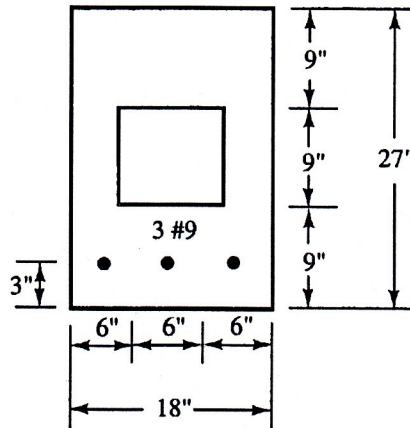
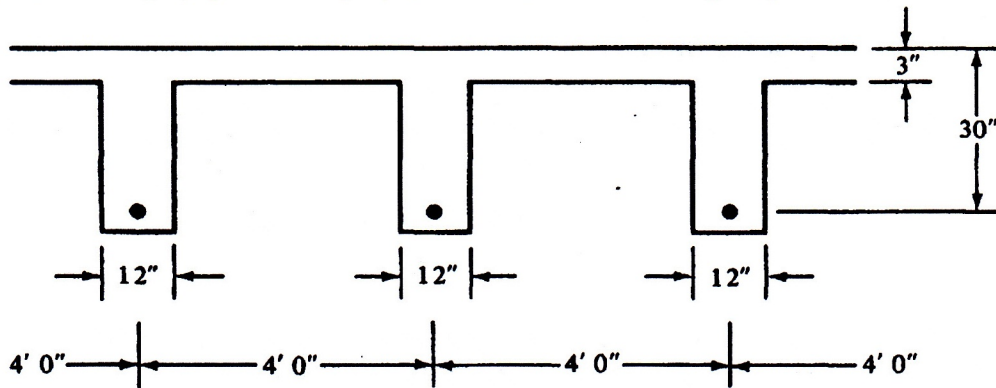

Fig. 1
Fig. 2
1. a) Calculate the uniformly distributed load (in addition to beam self-weight) which will cause the hollow section (Fig. 1) to begin crack. Given, Simply supported span = 28 ft, $f'_c = 4$ ksi, $f_y = 60$ ksi, $n=9$, concrete unit weight = 150 pcf. (5)
- b) Use Transformed Area method to determine the allowable resisting moment of the beam (Fig. 1), if the allowable bending stresses of concrete and steel are $f'_c = 1.35$ ksi and $f'_s = 20$ ksi. (5)
2. a) What is the justification of selecting strength reduction factor (ϕ) based on net tensile strain (ϵ_t)? Discuss the variation of ϕ with ϵ_t as given in ACI code addressing the tension controlled and compression controlled design. (3)
- b) A rectangular concrete beam of width $b = 14$ " is limited by architectural considerations to a maximum total depth $h = 32$ ". The beam must carry a service (i.e. unfactored) DL moment of 200 k-ft and service LL moment of 450 k-ft. Design the flexural reinforcement for the beam using compression steel if necessary. Assume double layer tension reinforcement. Use, $d=28$ ", $d' = 3$ ", $f'_c = 4$ ksi, $f_y = 60$ ksi, $n = 9$. (7)
3. Design a T beam for the floor system shown in Fig 2. Given, $M_D = 200$ k-ft, $M_L = 400$ k-ft, $f'_c = 4000$ psi, $f_y = 60000$ psi, $f_s = 24$ ksi, $n=9$ and simple span= 24 ft. (10)